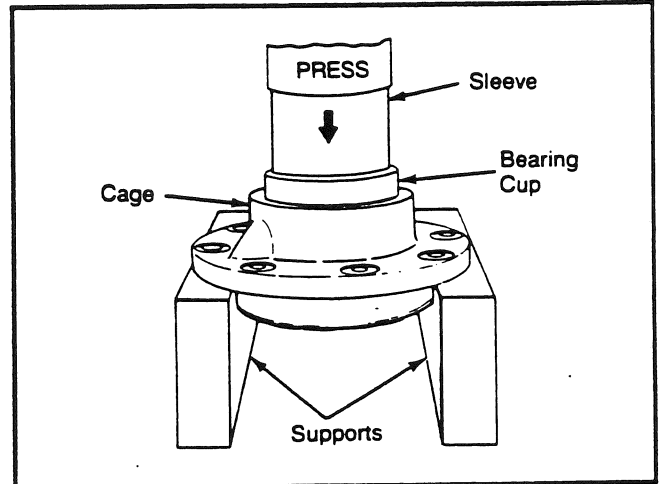

Fig. 29
1. Place the bearing cage in a press and support with metal or wood blocks. Lubricate the bearing cup with system oil. Use a sleeve of the correct size and press the bearing cup into the bearing cage until the cup is flat against the bottom of the bore (see Fig. 29). Repeat the procedure for the other bearing cup.